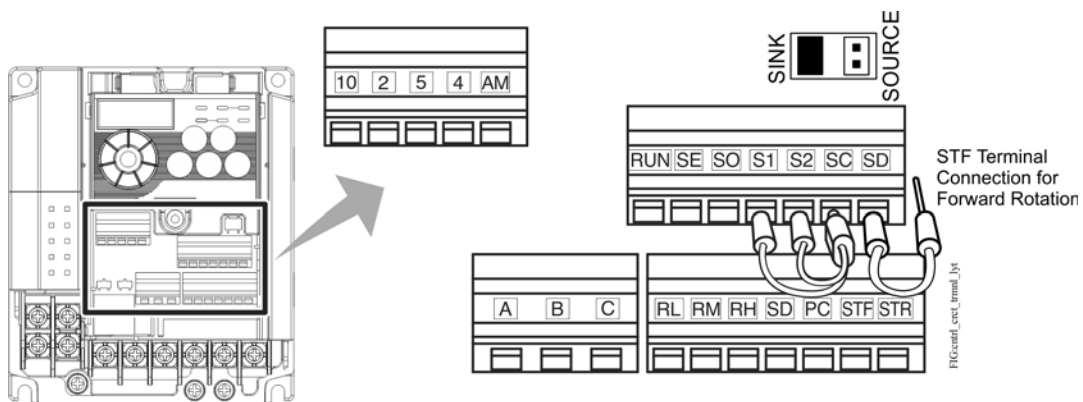

Figure 13: Locating the Low-Voltage Wiring Terminals
2. Locate the low-voltage wiring terminals (Figure 13).